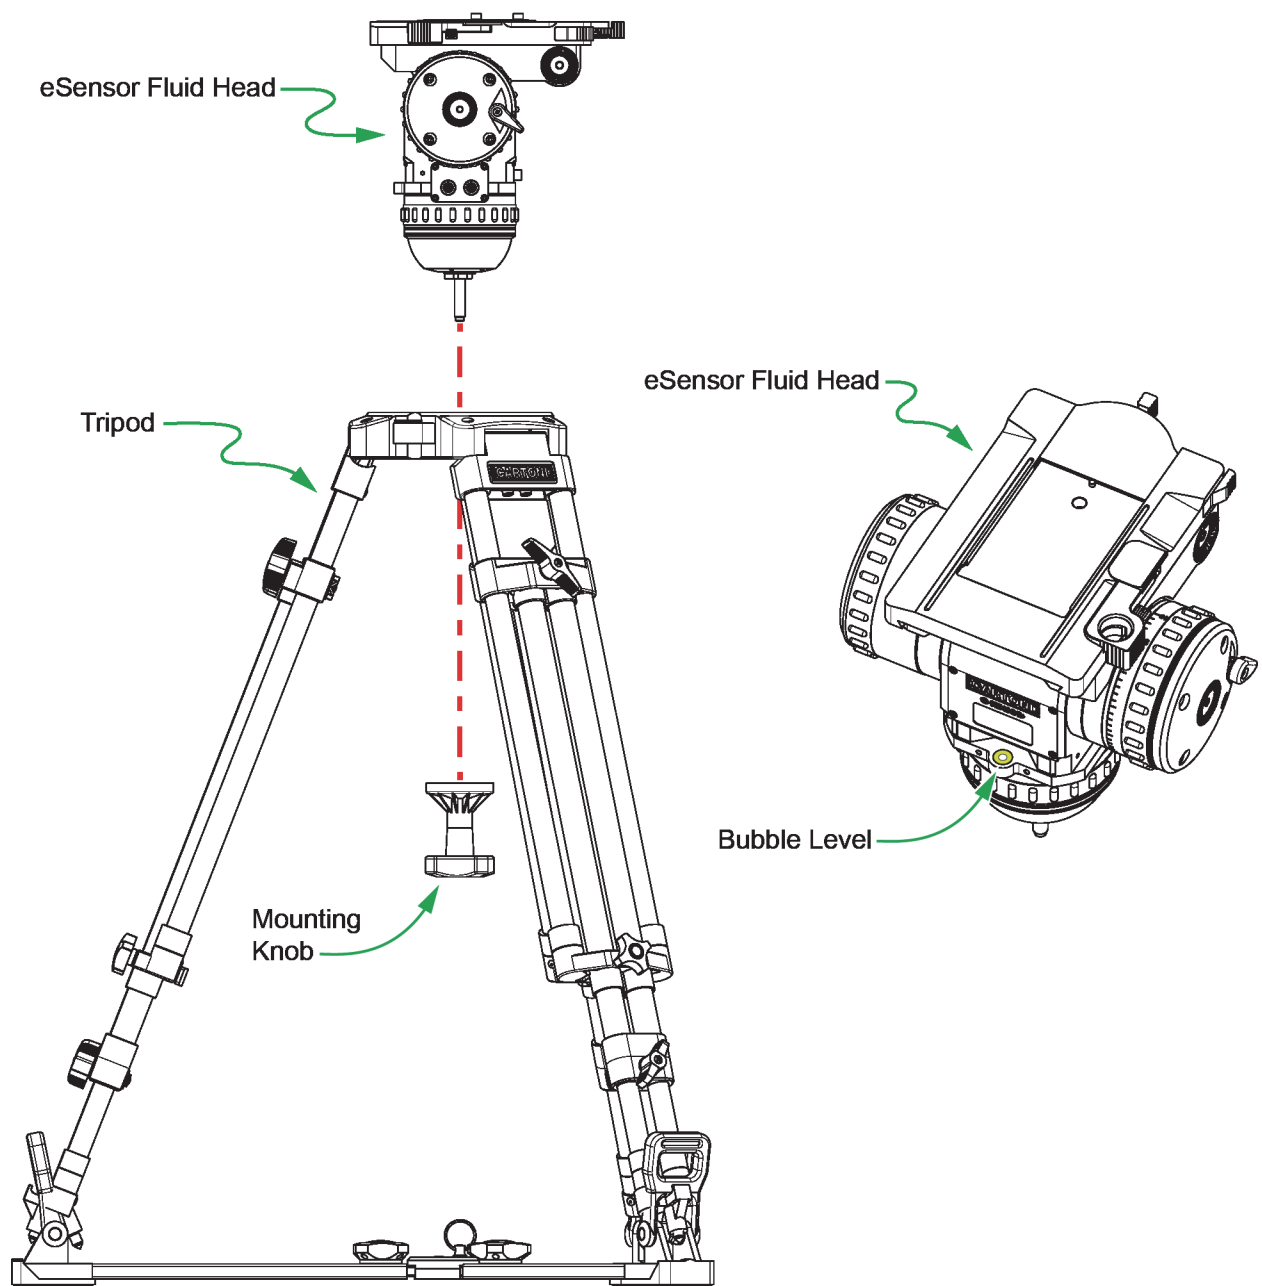

Figure 3.1 - Mounting the eSensor fluid head to the Tripod
2. Unpack the eSensor fluid head and mount it to the tripod (see **Figure 3.1**):